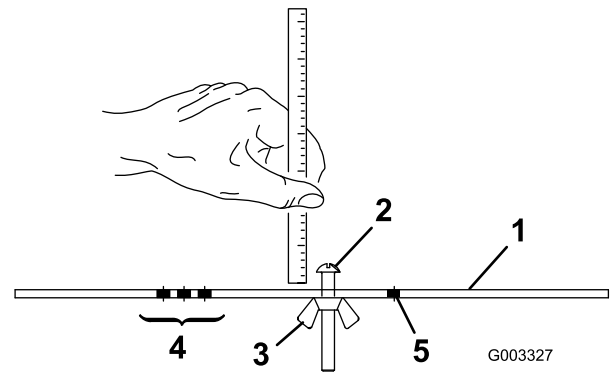

Figure 19
2. Loosen the nut on the gauge bar (Figure 19) and set the adjusting screw to the desired height of cut. The distance between the bottom of the screw head and the face of the bar is the height of cut.